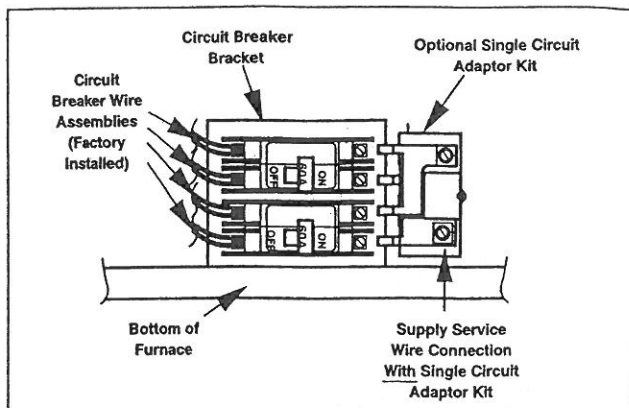

Figure 17. Installation of Optional Single Circuit Adaptor Kit
-012 models are factory wired for a single branch circuit (Single Circuit Kit installed). A dual branch circuit can be used by removing the factory installed single circuit kit (see Figure 17).
4. Insert the supply service wire(s) through the cable connector(s), and connect them to the circuit breakers. See Figures 17 and 18. For installations without the single circuit kit tighten the lugs securely (45 in.-